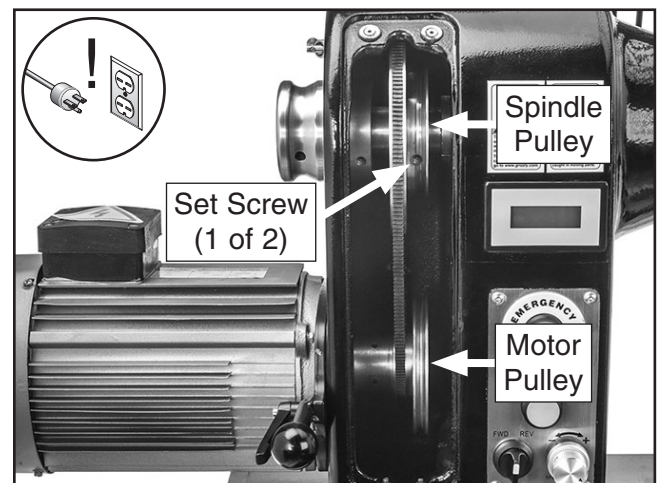

Figure 68. Location of motor and spindle pulleys.
3. Loosen (2) M8-1.25 x 10 set screws on spindle pulley (see **Figure 68**).